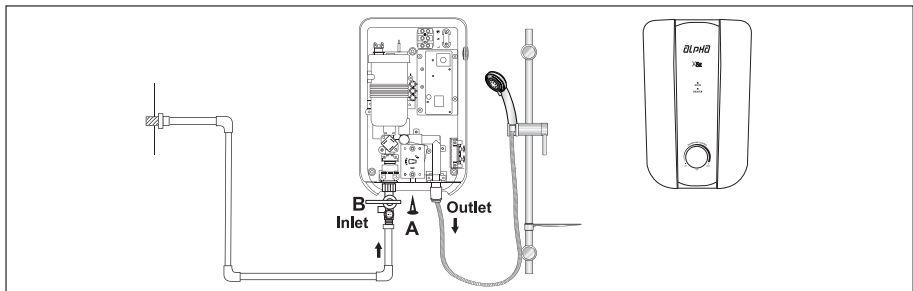

Fig. 3 - General Layout
- d. Replace the cover and secure screw marked 'A' as in Fig. 3.